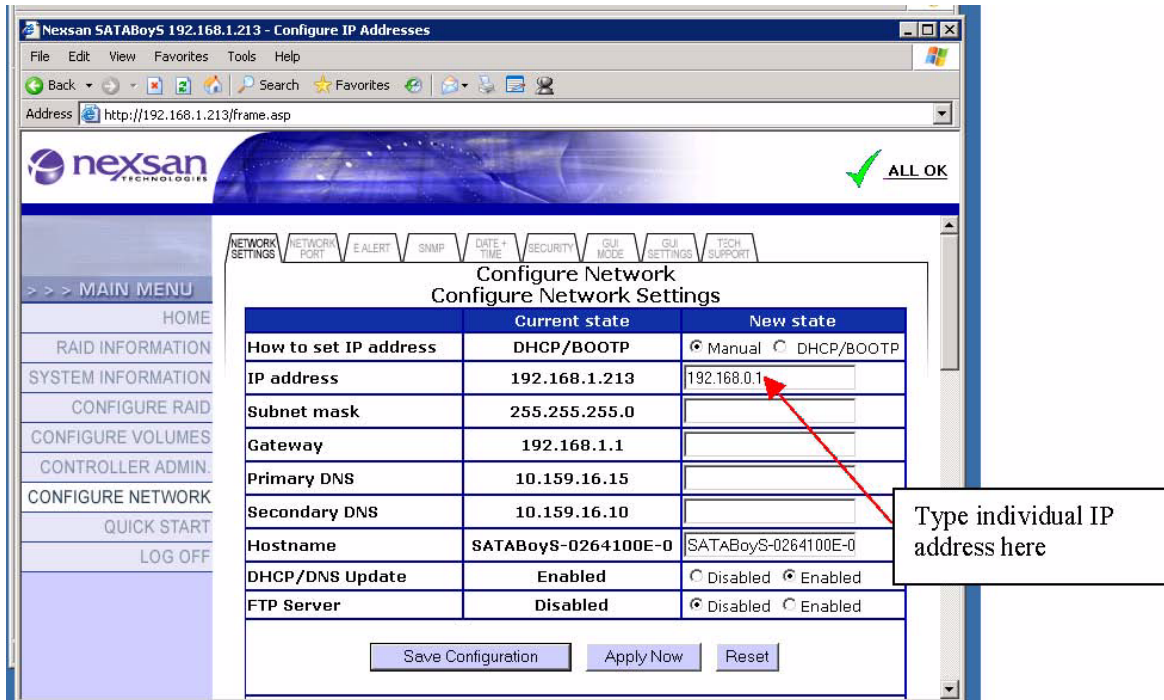

Figure 5
5. On the Configure Network, type **X.X.X.X** next to the IP address where X.X.X.X is the individual address assigned to each SATABoy. 192.168.0.2 is the sample IP address. (See Figure 5)
2. Highlight the address bar and type **X.X.X.X** where X.X.X.X was chosen under Network Setting. (See Figure 5)
2. Highlight the address bar and type X.X.X.X where X.X.X.X was chosen under Network Setting. (See Figure 5)